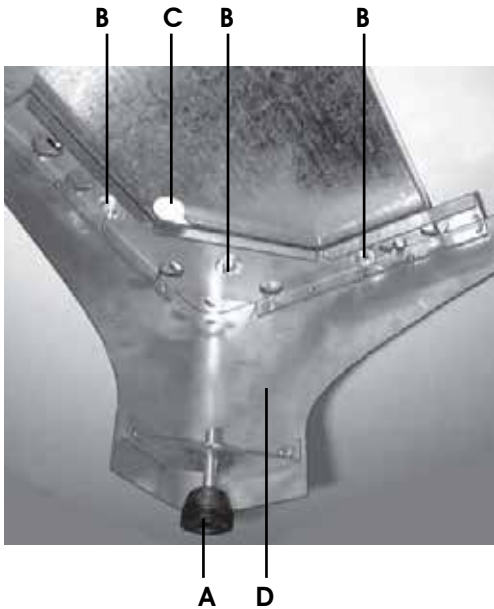

Fig. 1a
1. install base feet (see proper instruction Fig.1a,1b,1c)